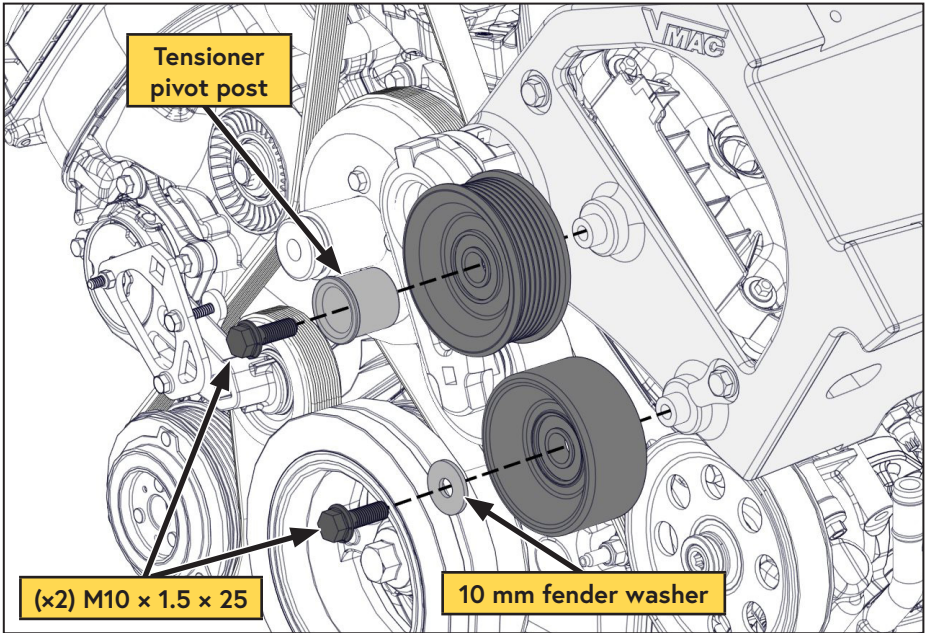

Figure 19 — Installing idlers
- ☐ Install the idlers and tensioner pivot post onto the bracket (Figure 19).